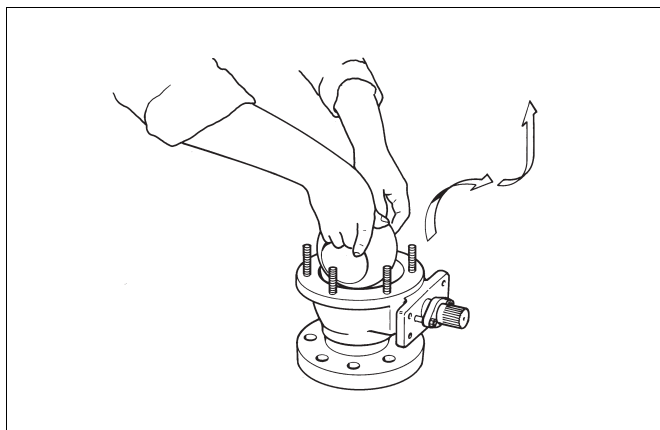

Fig. 18 Removing the ball from the body
- ❑ Remove the ball (3) from the body (1) by gripping the edges of the flow bore (small sizes) or by passing a rope through the bore (large sizes). To detach the ball from the spline driver (4), turn the ball to the closed position before lifting. Make sure that the ball is not damaged and put it onto a soft surface (see Figure 18).